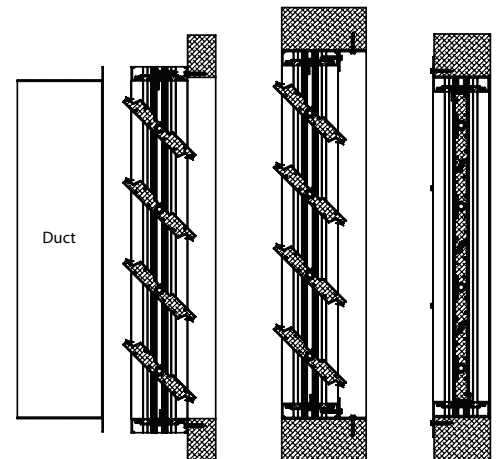

Fig. 2
M. Most common types of installation - standard flange out of opening (Fig. 2), standard flange inside opening (Fig. 3) and extended flange (Fig. 4).